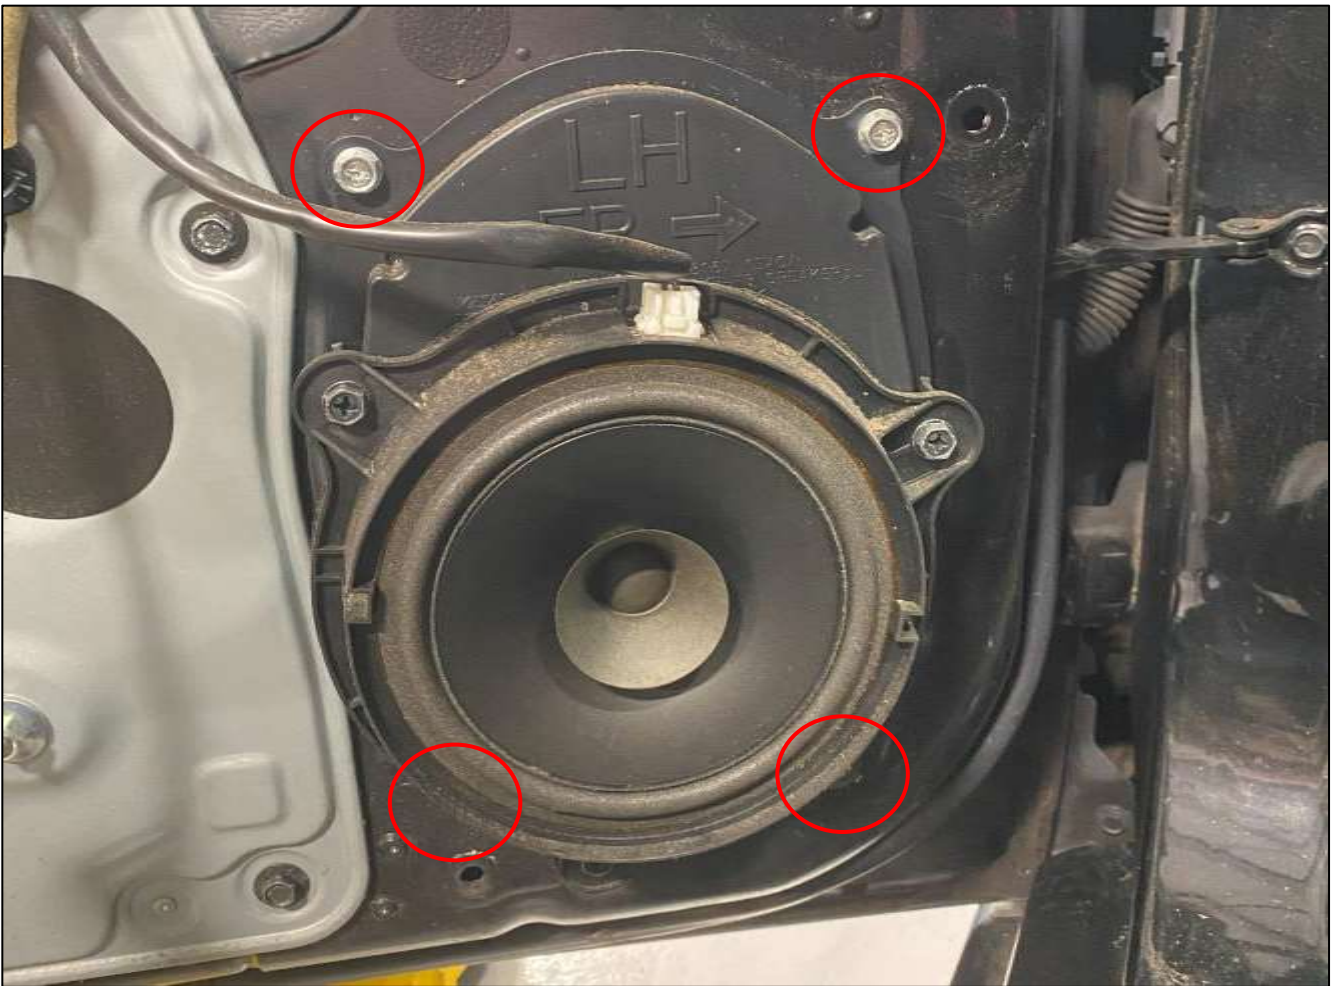

Figure 42
11. Disconnect the (4) four 10mm Bolts securing the Speaker to the Door. *Figure 42.*